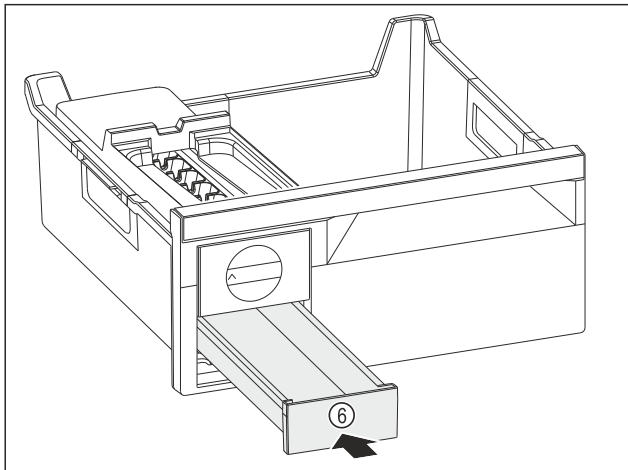

Fig. 87
- ▶ Insert the ice cube drawer Fig. 87 (6).